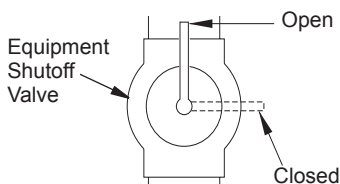

Figure 21 - Equipment Shutoff Valve
1. Close equipment shutoff valve (see Figure 21).
1. Open equipment shutoff valve (see Figure 21).
3. Close equipment shutoff valve (see Figure 21, page 16).